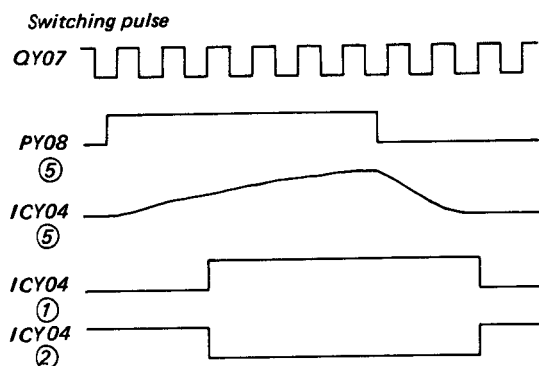

Fig. 3-60 Timing Chart for Slow, Still Changeover Timing
Slow, Still Signal Circuits (Fig. 3-60)
As output (Q) from Pin 13 of IC Y05 is impressed on the base of QY24 through RY25, QY24 and QY25 is turned on and the voltage is approximately zero except during the period from the start of the drive pulses to the start of the brake pulses. The function of Fig. 3-60 previously explained is thus carried out in this manner. A thermistor is also provided on the motor to compensate for the motor characteristics during low temperatures by increasing the resistance value, lowering the voltage on the base of QY20, increasing the current in the collector and thus increasing the drive voltage.